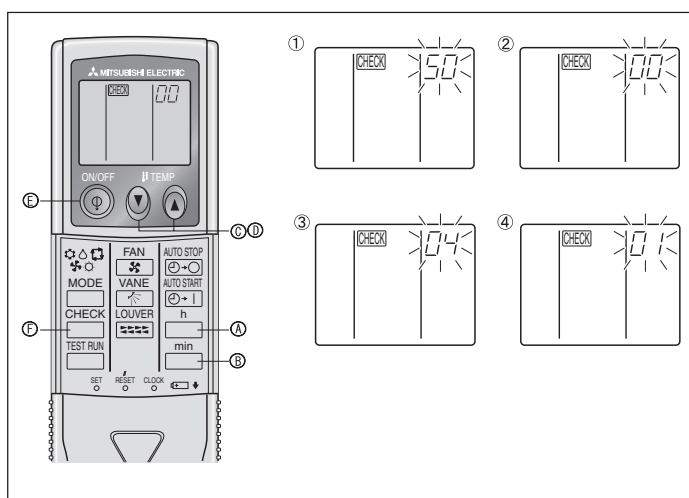

Fig. 6-10
- ⑧ Press the MODE button $\text{\textcircled{E}}$ and mode and the setting number (1) and (2) will change to being on constantly and the contents of the setting can be confirmed.
- ⑨ Press the FILTER $\text{\textcircled{A}}$ and TEST RUN $\text{\textcircled{B}}$ buttons simultaneously for at least two seconds. The function selection screen will disappear momentarily and the air conditioner OFF display will appear.
2) For wireless remote controller (Fig. 6-10)